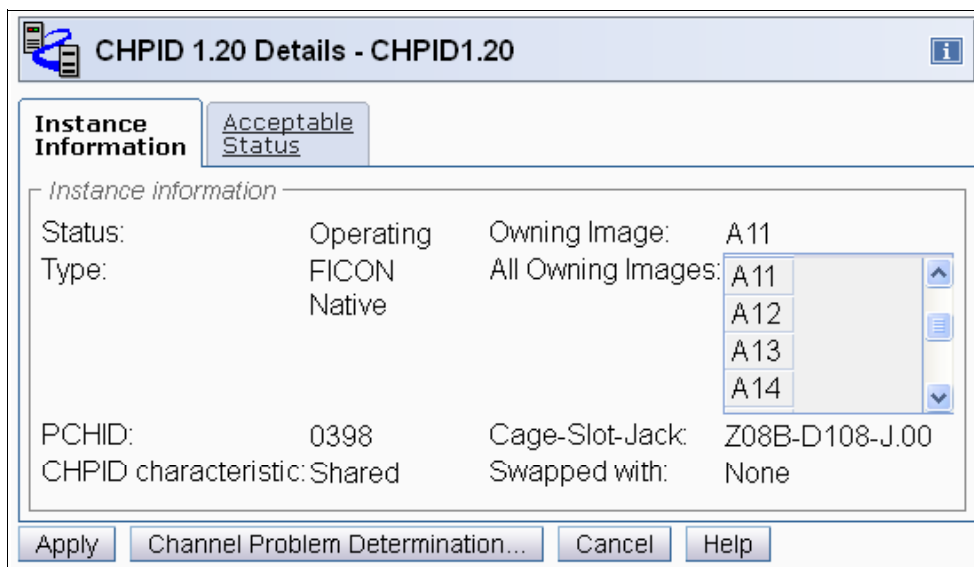

Figure 5-42 HMC CHPID details for 1.20
2. The CHPID Details panel provides information that is similar to the PCHID details panel. To display the CHPID details, select the channel list for an LPAR from the Support Element. Refer to Figure 5-42.